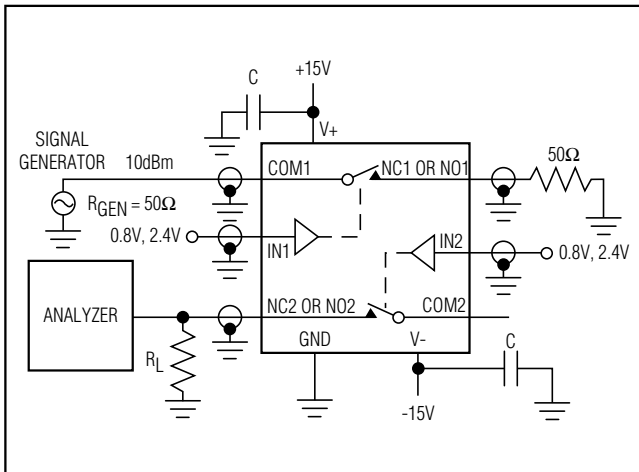

Figure 3. Crosstalk Test Circuit (repeat for channels 3 and 4)
**Note 5:** See Figure 3. Off Isolation =  $20 \log_{10} \left( \frac{V_{COM}}{V_{NC\_} \text{ or } V_{NO\_}} \right)$ , VCOM = output, VNC or NO = input to off switch.